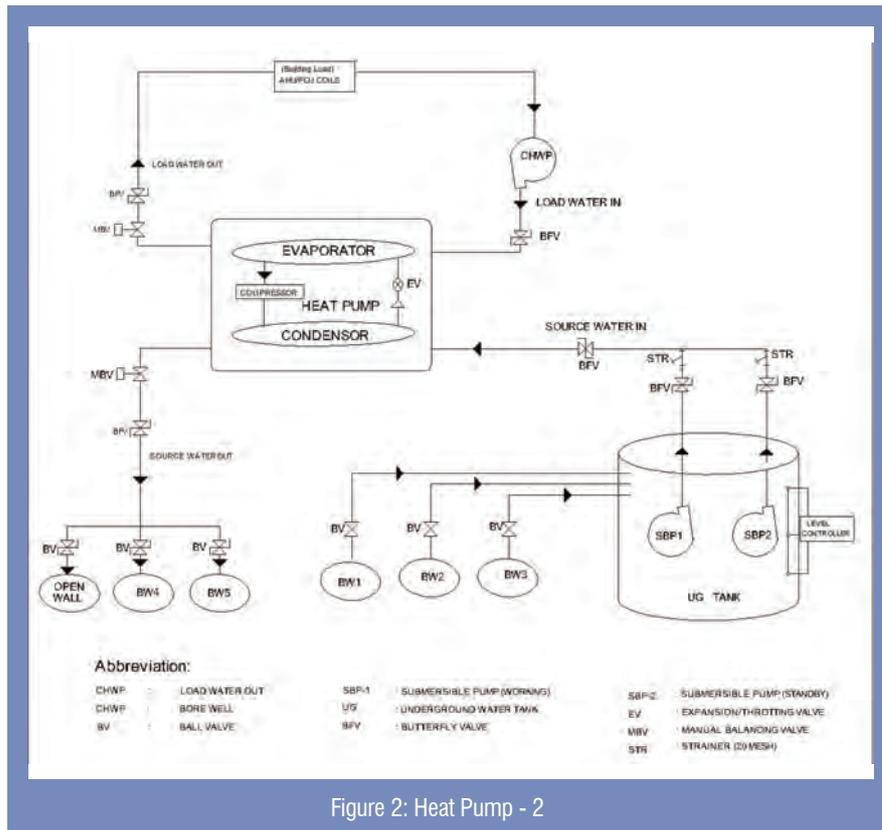

Figure 2: Heat Pump - 2
As shown in figure 2 in the first loop the chilled water is circulating between AHUs / FCUs coil inside the building and evaporator of heat pump through the chilled water pump; chilled water takes the heat from the building and transferred this heat to the low pressure liquid refrigerant into the evaporator; by absorbing this heat refrigerant changes its state from liquid to vapour phase. Refrigerant vapour then goes in to the compressor; to increase its pressure. High pressure vapour refrigerant which is carrying the heat rejected by chilled water and the heat of compression then entered in to water cooled condenser where this total heat added in to the refrigerant is transferred to the cooling water coming from the underground tank.
As shown in figure 2, the cooling water will be supplied to the underground (UG) tank by three bore wells. UG tank